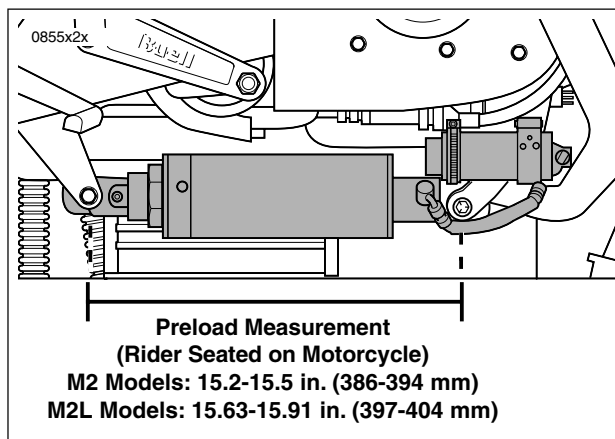

Figure 1-27. Rear Shock Preload Adjustment
1. See Figure 1-27. With a rider seated on the motorcycle, measure the distance between the centers of the front and rear shock eye. See below for the optimum preload measurement.
2. See Figure 1-27. Adjust shock preload until the measurement is within the optimum preload measurement.